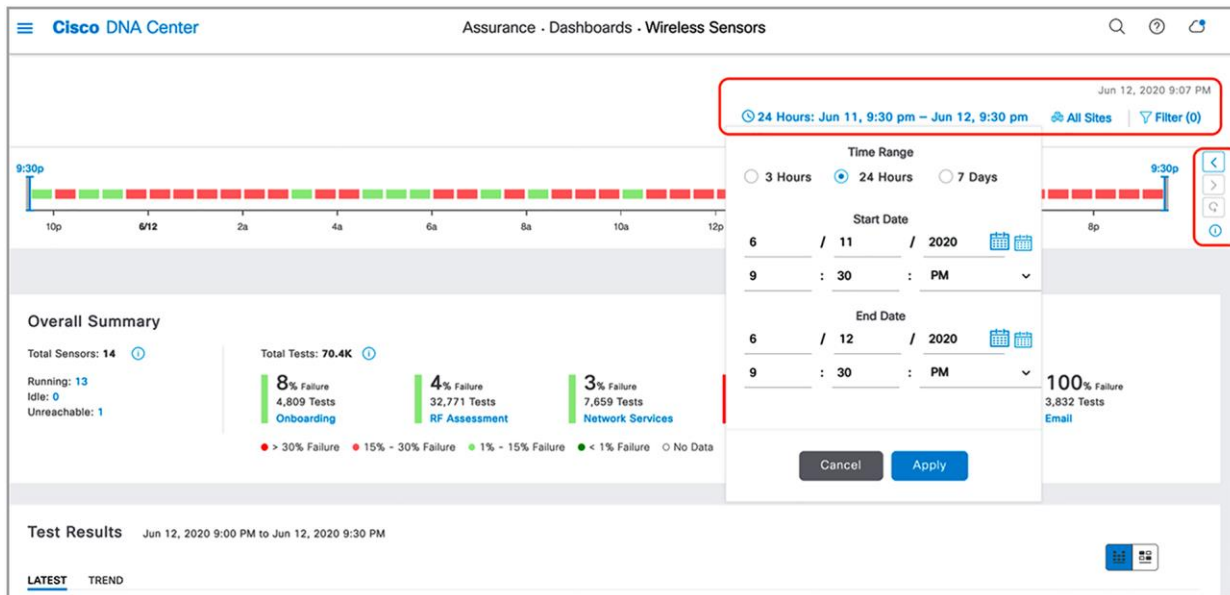

Figure 89.
2. View the Wireless Sensors dashboard for test results a couple of minutes after the first round of testing has completed (**Figure 89**).
3. Optional SSID and band filter: To filter the Wireless Sensors dashboard to show only data for specific sites, click the Multiple Sites button in the top right corner of the screen and select a site (**Figure 89**).
4. Optional site hierarchy filter: To filter the Wireless Sensors dashboard to show only data from a specific band or SSID, click the Filter button in the top right corner of the screen and make a selection (**Figure 89**).
5. Optional network time travel: Like all Assurance pages on Cisco DNA Center, the Wireless Sensors dashboard provides the ability to view data back in time for up to 14 days. You can do so either by clicking the date, which provides a drop-down menu that allows you to specify the date and time to view, or by clicking the left and right arrows to the right of the time bar (**Figure 89**).